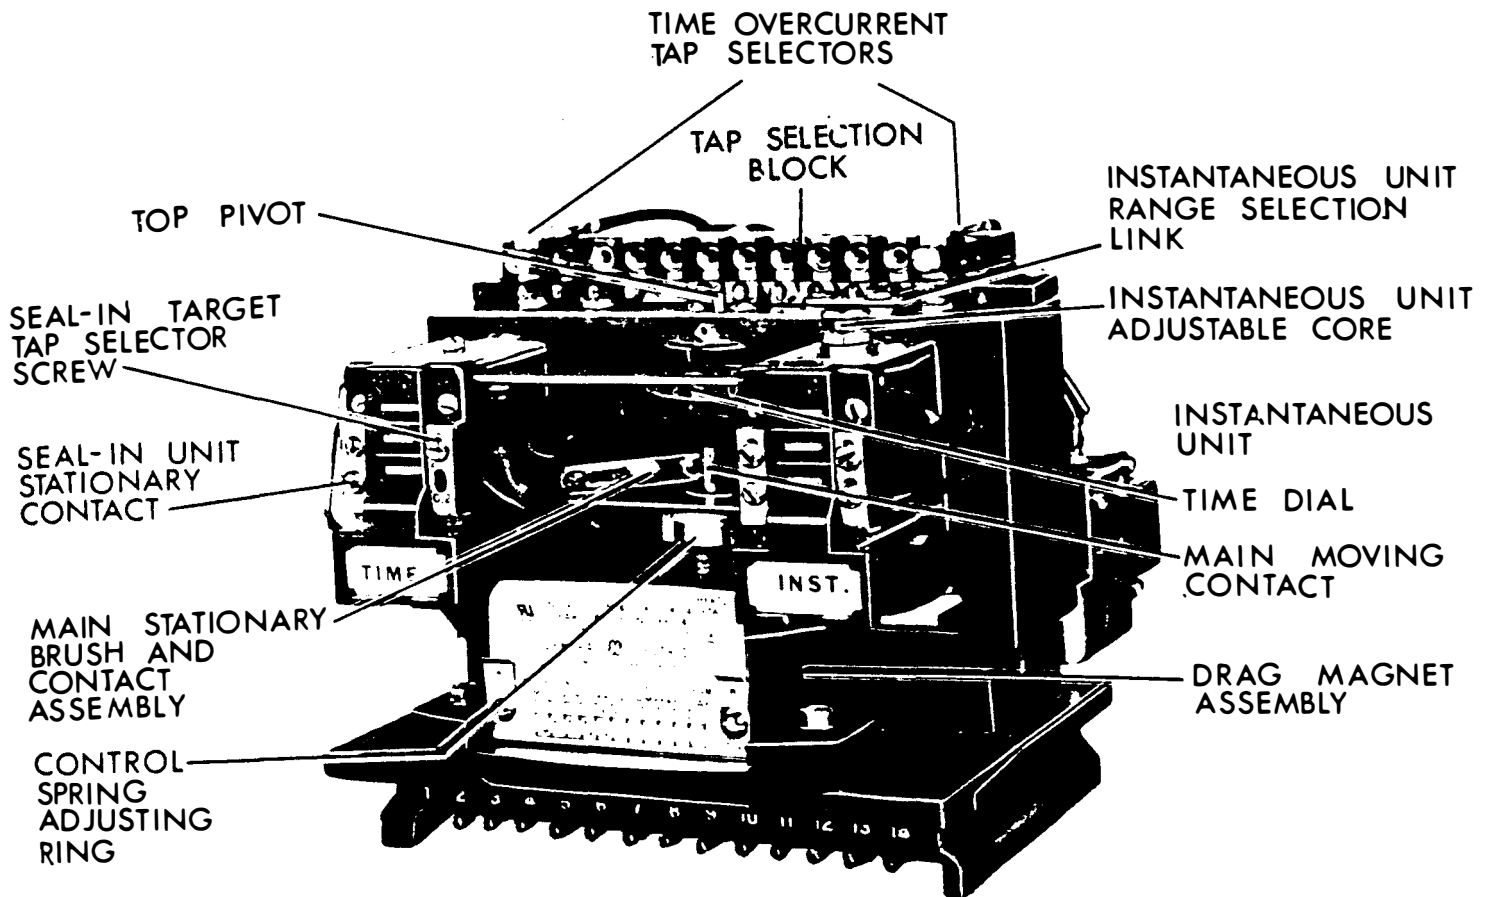

Figure 1 (8043007) Type IFC66KD Relay Removed from Case, Front View
1. Select the desired range by setting the link in the proper position (see Figure 1 and the internal connections diagram). Always select the higher range whenever possible, since it has a higher continuous rating.
The operating time should be adjusted as nearly as possible to 18.6 seconds. The drag magnet assembly should be approximately in the middle of its travel and may be adjusted by loosening the two screws securing it to the support structure (see Figure 1). Moving the drag magnet towards the disk and shaft decreases the operating time. Moving the drag magnet away from the disk and shaft increases the operating time. The screws securing the drag magnet assembly to the support structure must be tightened before proceeding with other time checks.